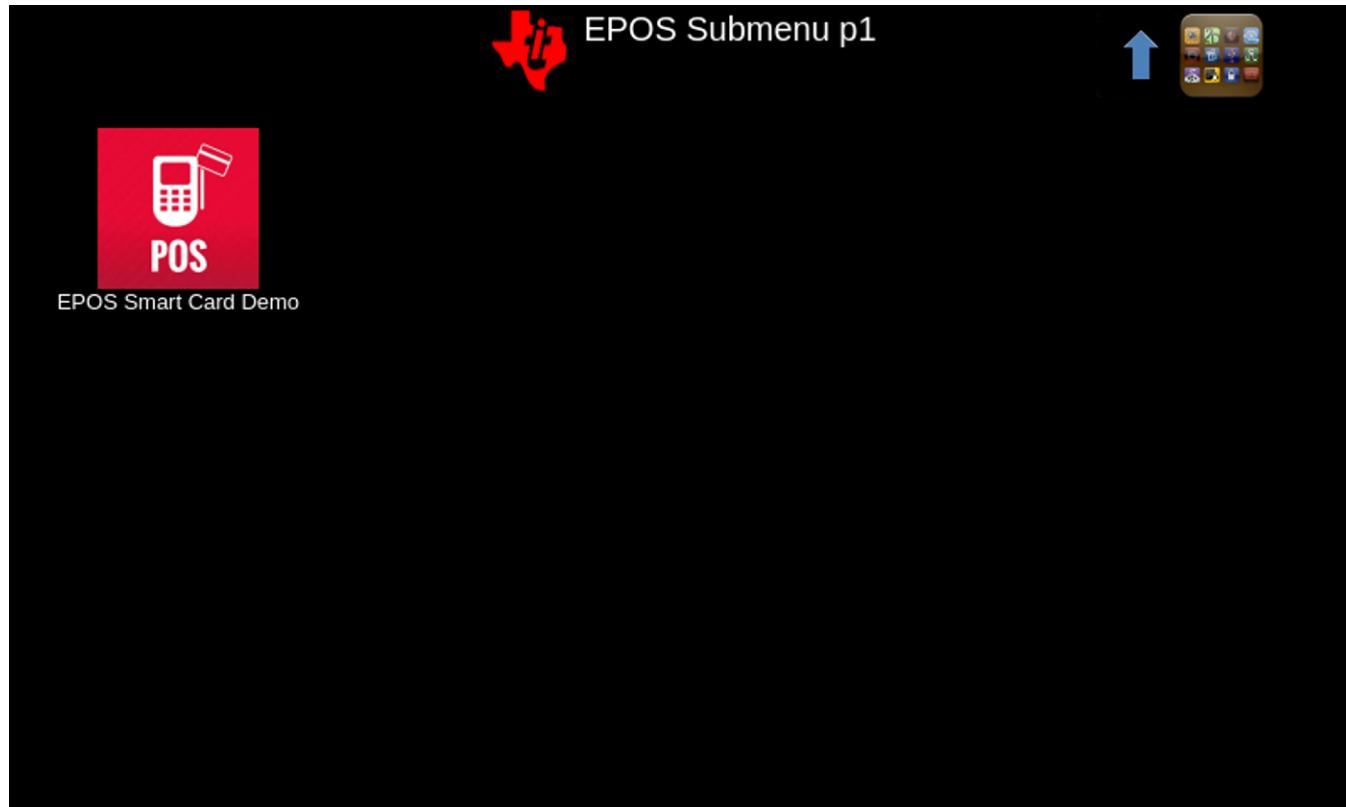

图 10. EPOS Submenu to Launch EPOS Smart Card Demo
1. On Matrix GUI, select the EPOS icon to launch the submenu (see 图 10).